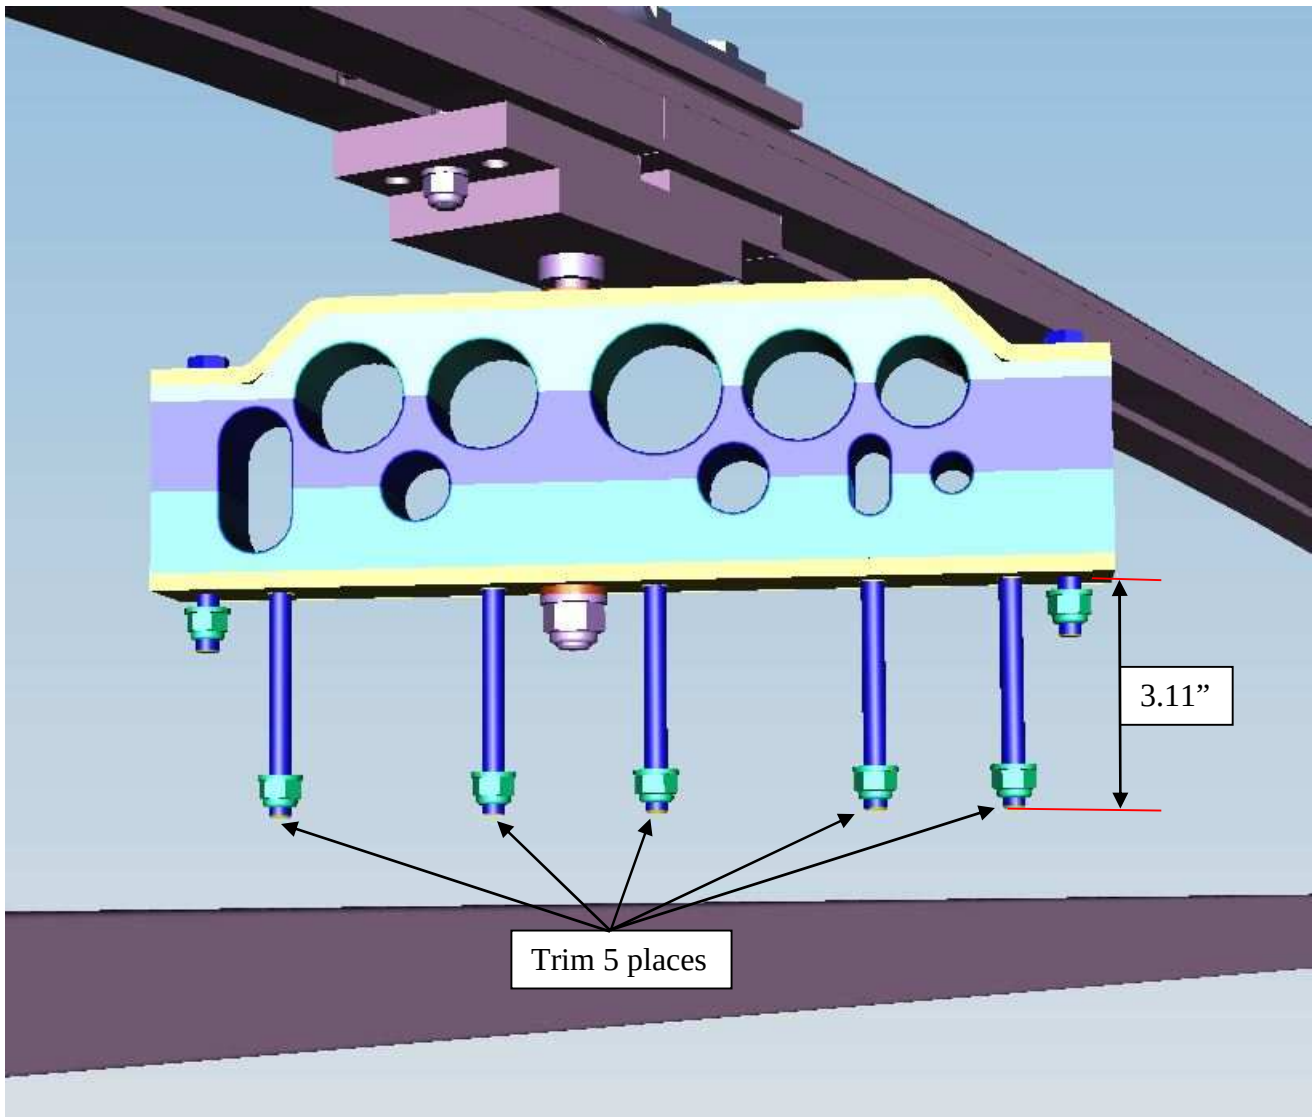

Figure 3: Trim the 5 studs
3. Trim the 5 studs on the spider clamp to the dimension shown in figure 3. Ensure there's two threads remaining outside of the lock nut face. Remove any sharp burrs.